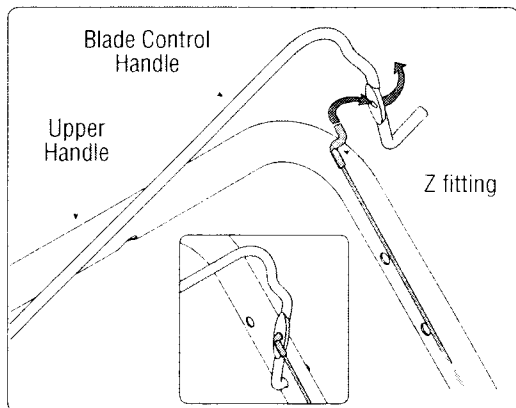

Figure 6: Attaching the "Z" fitting.
2. To make it easier to attach the Z fitting, remove the left side of the blade control handle as shown in Figure 6.
3. Hook the "Z" end of the brake cable into the handle from the inside to outside, Figure 6.